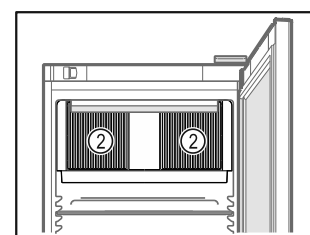

Fig. 62
- Ventilation slots *Fig. 62 (2)* for recirculation fan in the interior must be kept clear.